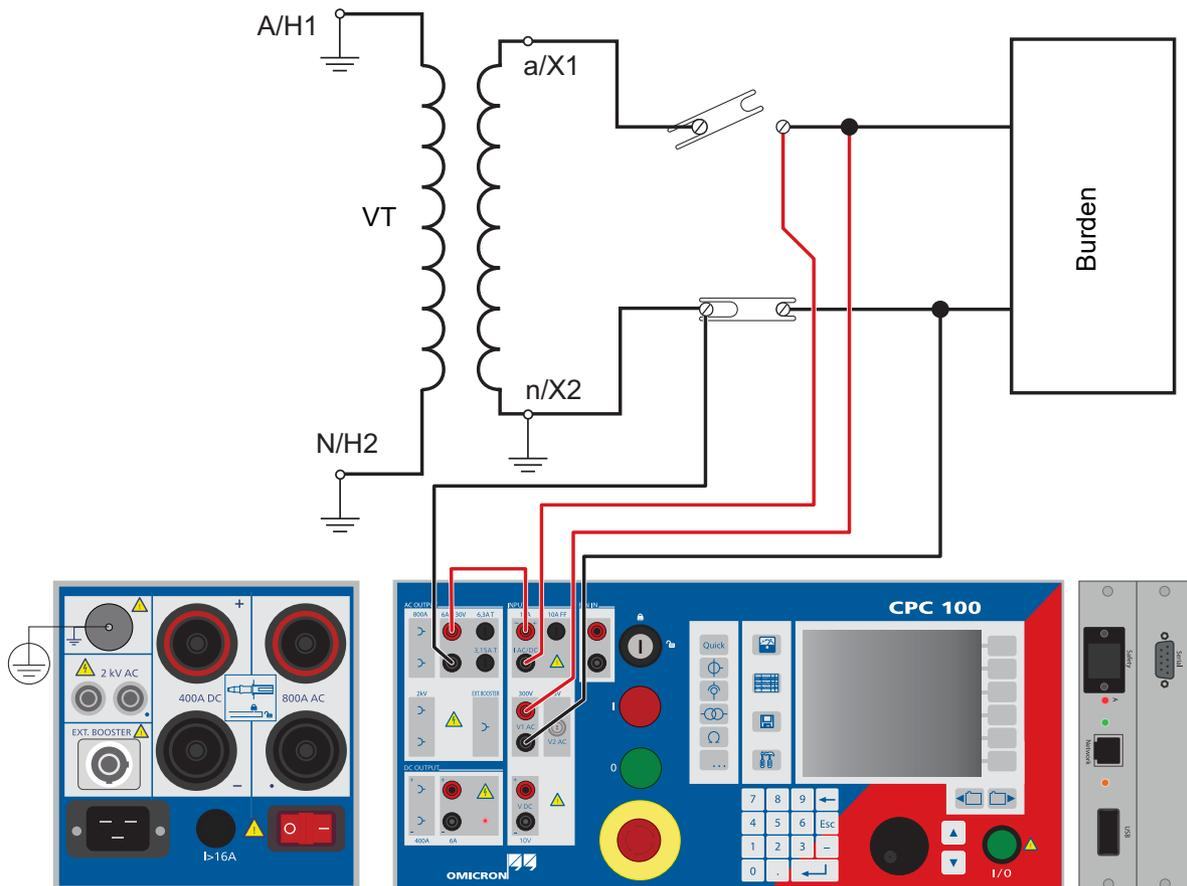

Figure 6-4: Setup for a VT burden measurement
- ▶ To do so, open the circuit as shown in Figure 6-4 and inject the AC voltage from the *CPC 100*'s **130V AC** output into the burden.